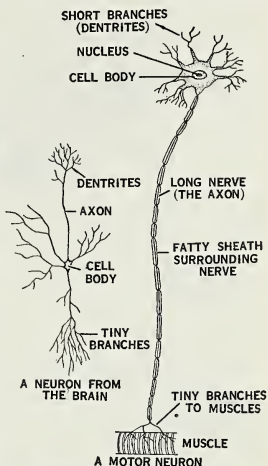

Fig. 440. Nerve cells. The branches pass the stimulus to other nerve cells. Bundles of long branches make up the nerves.
**Nerve cells and nerves.** Like other cells, nerve cells are composed of protoplasm, part of which is the nucleus. But nerve cells have a very peculiar shape (Fig. 440). Long